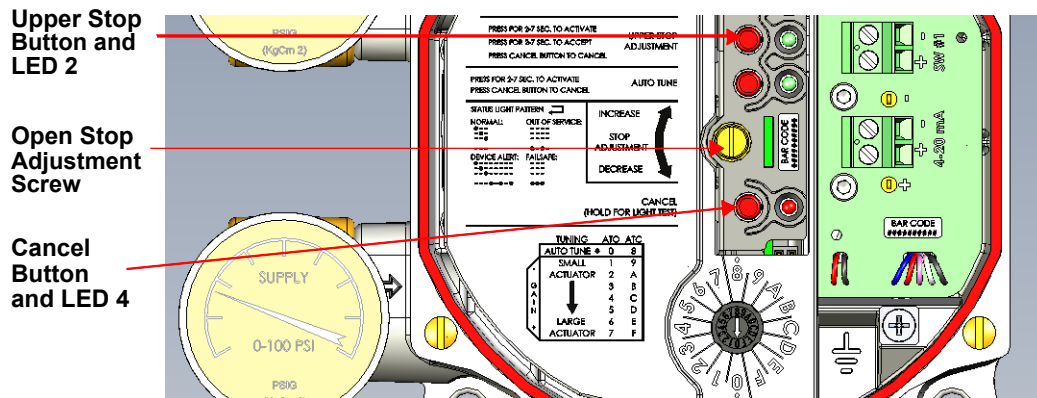

Figure 26 - Open Stop Adjustment Screw
2. Move the valve to the desired location via the *Open Stop Adjustment Screw* (Figure 26).